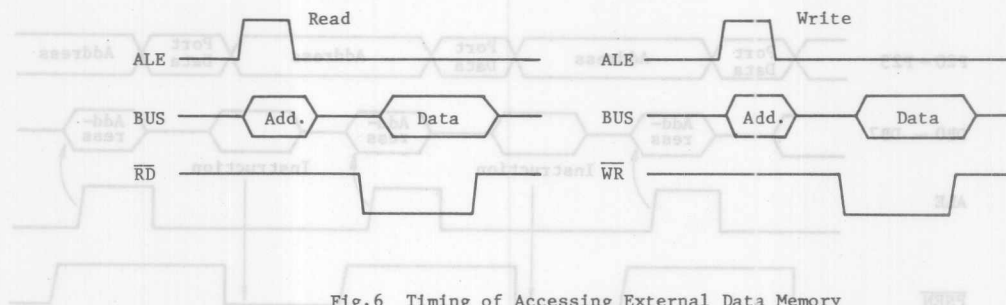

Fig.6 Timing of Accessing External Data Memory
- Figure 6 illustrates the timing of accessing the external data memory during execution of external program.
(3) Interface with I/O Expander (TMP8243P)